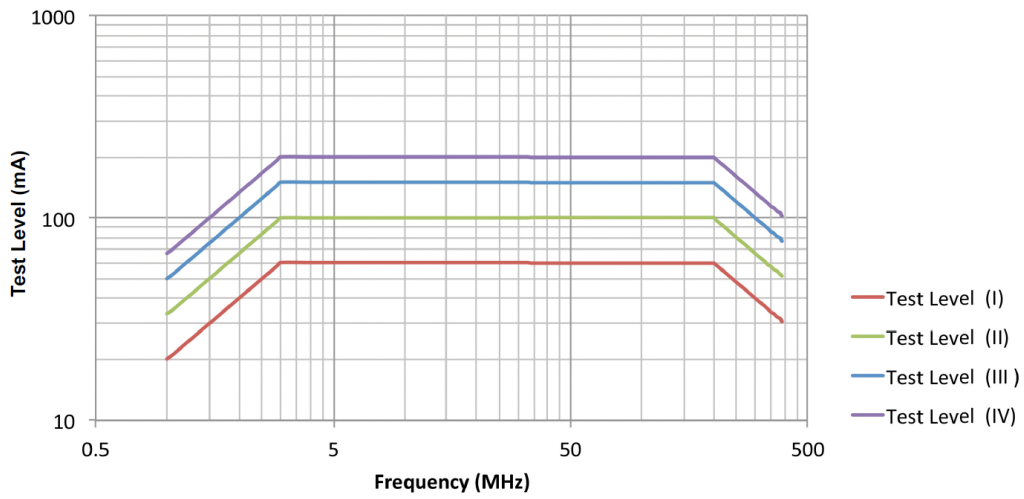

Figure 1: Automotive BCI Test Levels
This application note specifically gives a description of a Conducted Immunity (CI) system configuration that will satisfy many standards' conducted immunity requirements over a range of 10 kHz to 3 GHz and can generate levels up to 500 mA, providing capability for testing to all of the standards listed in Table 1. Since this system covers a wide frequency band, both bulk cable injection (BCI) and tubular wave coupler (TWC) injection methods can be used. As examples, see Figures 1 and 2 for achievable automotive BCI and TWC limits. Note that these requirements may differ based on specific automotive manufacturer requirements and that limits will be different for other Military and Commercial standards. In addition, Table 2 provides an equipment list and indications of equipment required for each injection method.